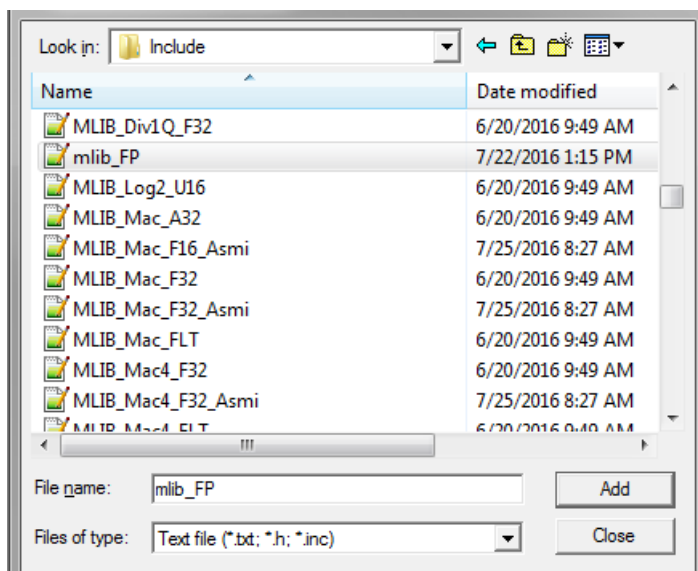

Figure 1-21. Adding .h files dialog
4. Navigate into the library installation folder C:\NXP\RTCESL\CM33F_RTCESL_4.6_KEIL\MLIB\Include, and select the *mllib_FP.h* file. If the file does not appear, set the Files of type filter to Text file. Click Add. See Figure 1-21.